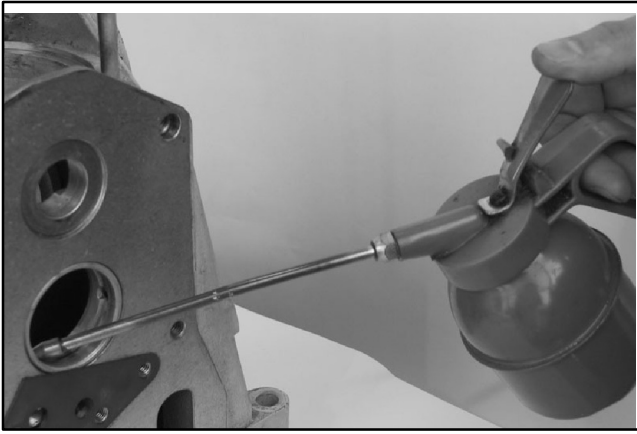

Figure 10-61 Bush Bearing
3. Lubricate the bush bearing and slide the crankshaft into the housing without damaging the bush bearing with the gear teeth. See Figure 10-61.